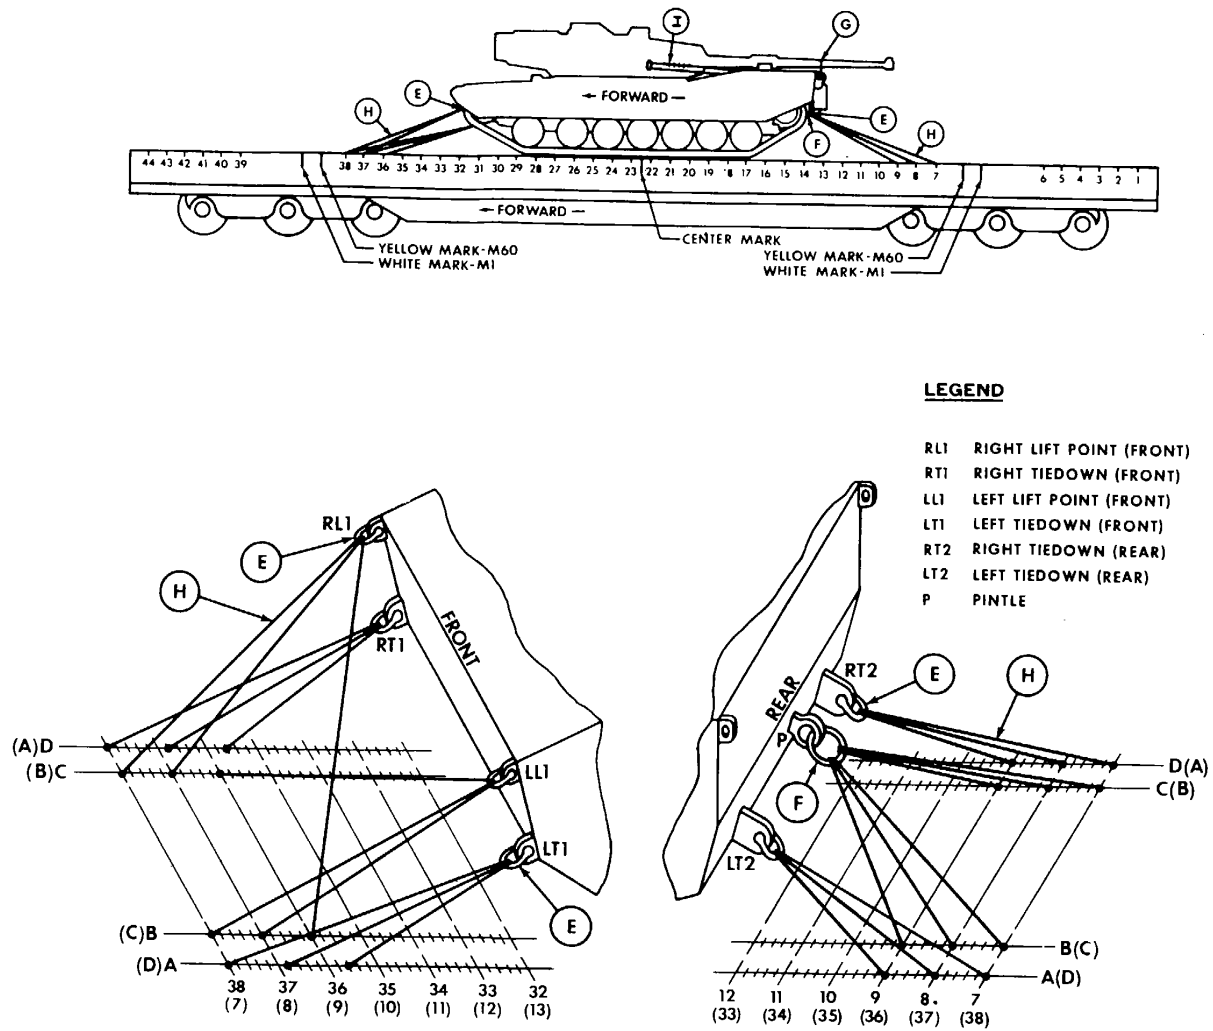
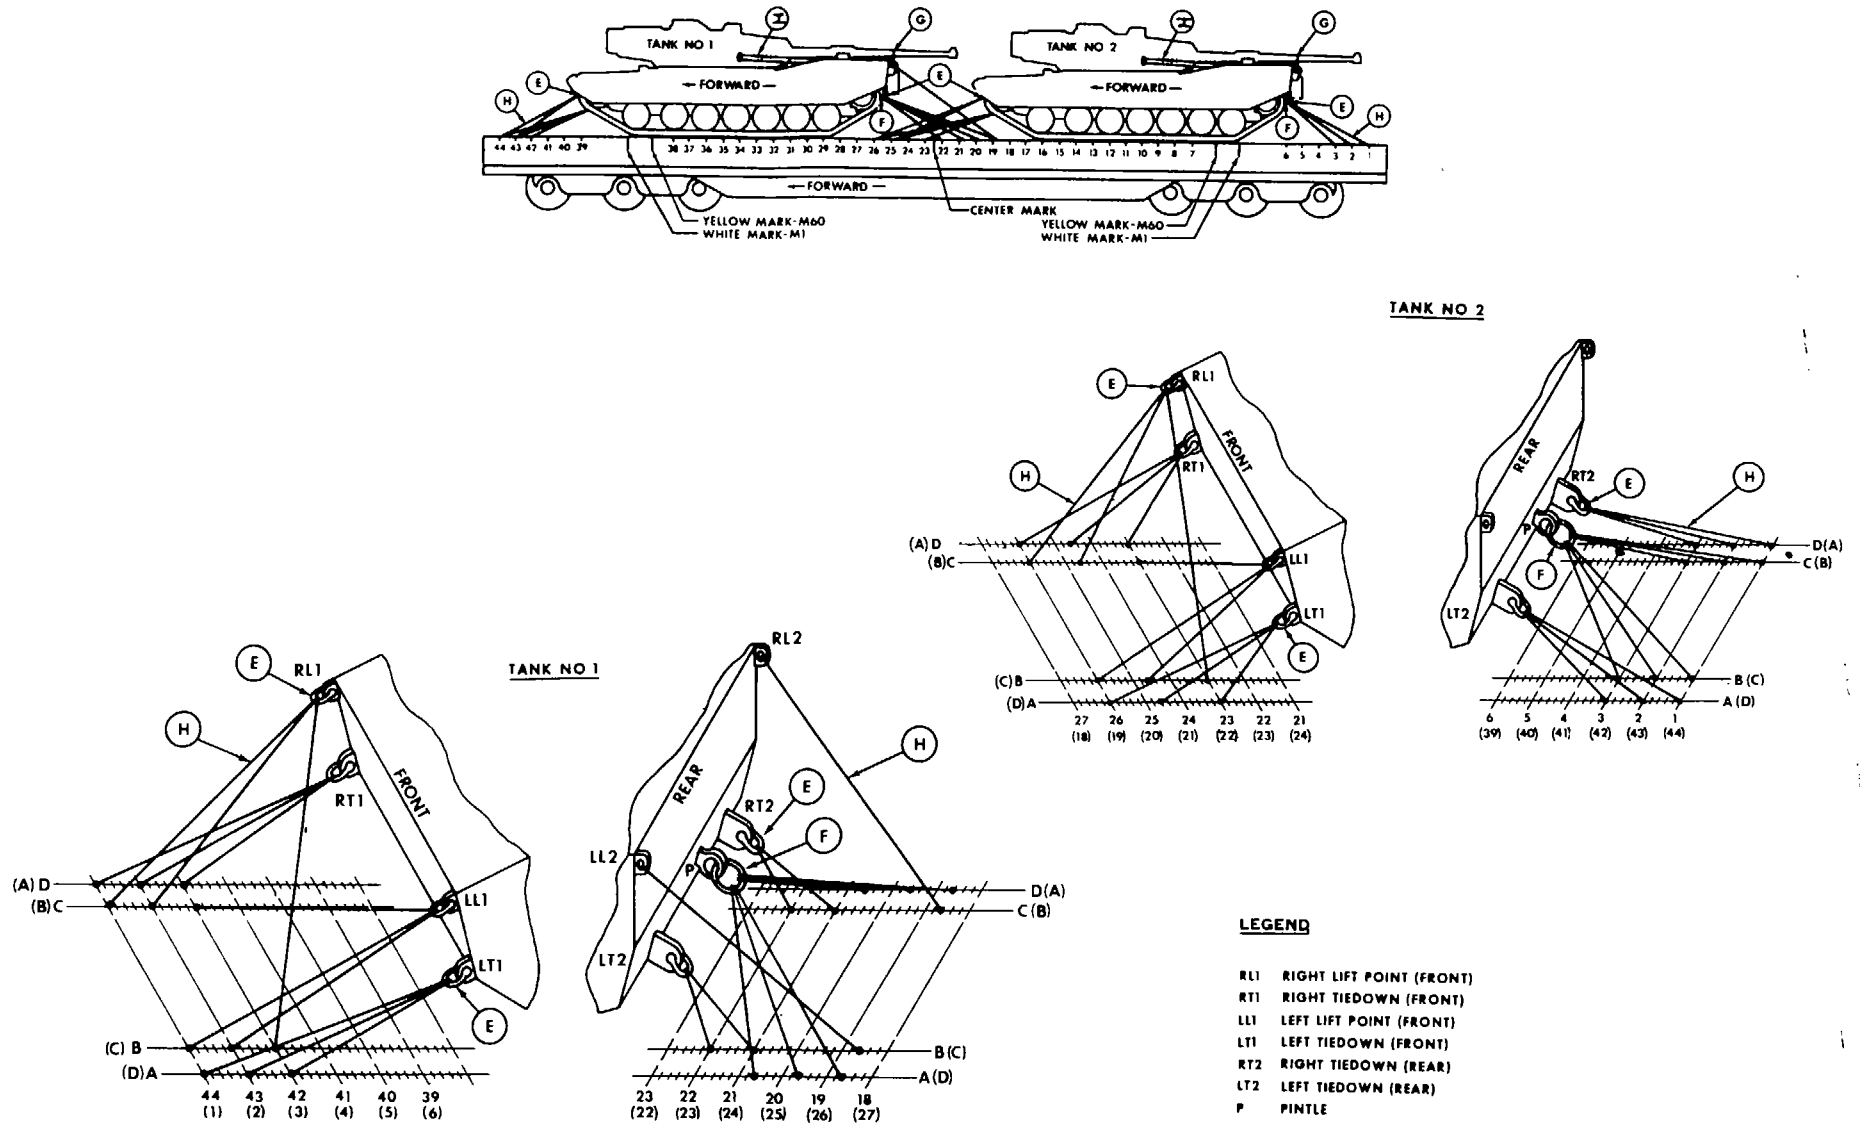

Figure 4-1. Chain tiedown arrangement for one M1 tank
Figure 4-2. Chain tiedown arrangement for two M1 tanks facing the same direction.
a. A single M1 tank can be loaded onto the flatcar either by being driven onto the car over an end-loading ramp or by being lifted onto the car with a crane or cranes of at least 70to 75-ton capacity. The tank must be centered on the car, with the hub of the fourth left roadwheel positioned over the white mark on the side sill at the center of the car and with about equal overhang of the tank tracks on both sides of the flatcar. A difference of 1 inch between the left-side and right-side overhang is the maximum permitted by many railroad load inspectors. The chain tiedown arrangement for a single M1 tank is shown in figure 4-1. The bill of materials required to secure each M1 tank on the flatcar is provided in table 4-1. The application of materials and chain tiedowns for a single M1 tank is explained in table 4-2. If the tank is loaded facing the opposite direction from that shown in figure 4-1, apply the chain tiedown arrangement as explained in table 4-4.
b. Two M1 tanks can be loaded onto the flatcar by being driven or lifted onto the car. Both tanks must be centered over the centerline of the car so that the track overhang is about equal on both sides. Tank No. 1 must be positioned so that the front of the left front roadwheel is lined up behind the white mark on the front side of the car. Tank No. 2 must be positioned so that the rear of the left rear roadwheel is lined up behind the white mark at the other end of the car. These positions are depicted in figure 4-2. When driven or lifted onto the flatcar, both tanks will be facing the same direction and secured as shown in figure 4-2. The application of chain tiedowns for two M1 tanks facing the same direction is explained in table 4-3. Front, rear, and between-tanks chain arrangements are shown in figures 4-4 through 4-6, respectively. If one or two M1 tanks are loaded facing the opposite TM 55-2220-05814 direction from that shown in figures 4-1 and 4-2, the chain tiedowns for one tank will be applied as explained in table 4-4; or for two tanks, table 4-5.
Table 4-2. Application of Materials for Securing One M1 Tank (Fig 4-1)
Table 4-3. Application of Materials for Securing Two M1 Tanks Loaded Front to Tail (Fig 4-2)
Table 4-4. Application of Materials for Securing One M1 Tank Facing the Opposite Direction from that Shown in Figure 4-1. (For location of "items, " refer to figure 4-1.)
Table 4-5. Application of Materials for Securing Two M1 Tanks Facing the Opposite Direction from that Shown in Figure 4-2. (For location of "items, " refer to figure 4-2.)
Table 4-5. Application of Materials for Securing Two M1 Tanks Facing the Opposite Direction from that Shown in Figure 4-2. (For location of "items, " refer to figure 4-2.)-Continued